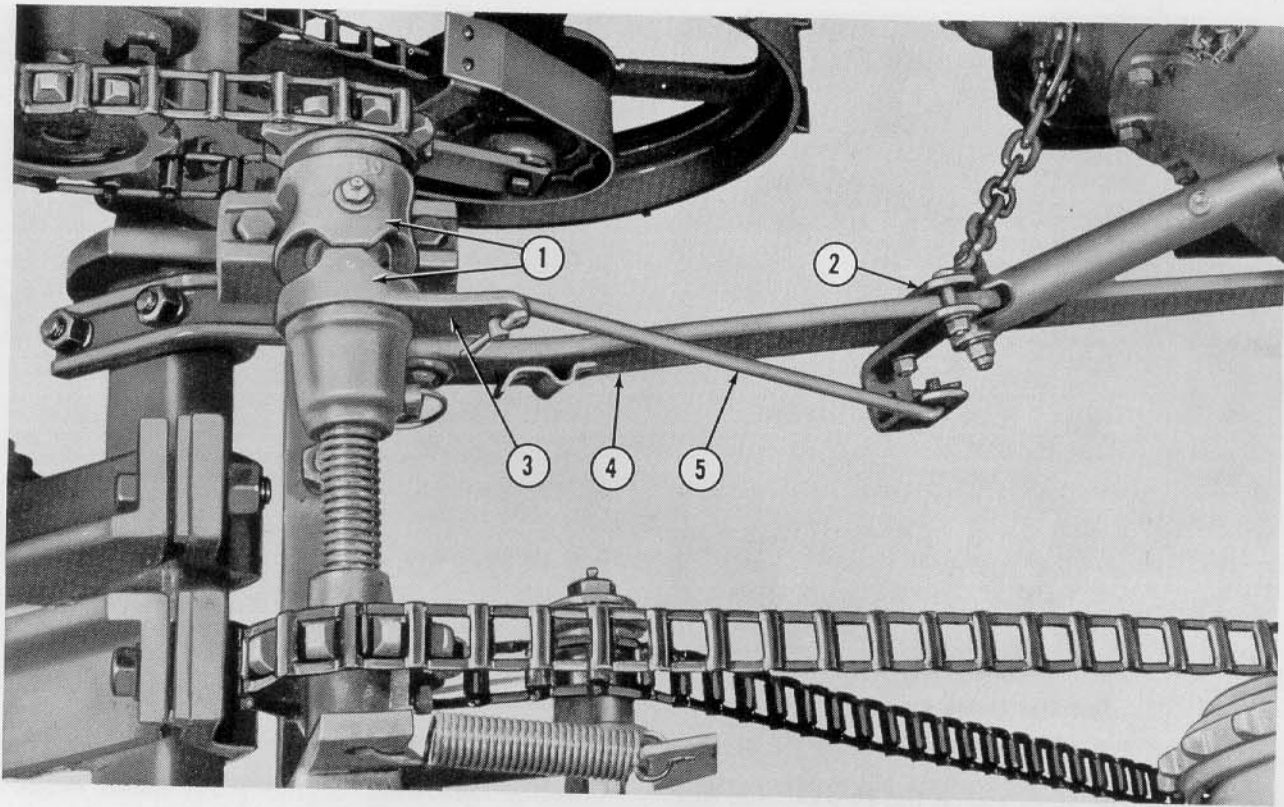

Figure 18
- a. Attach the clutch throwout rod (5), Figure 18, to the lever (3) on the sliding half of the clutch and secure with cotter pin.
- b. Attach the clutch throwout rod bracket (2) to the tractor right lower link (4) as shown in Figure 18.
- c. Slide the bracket (2) on the tractor lift arm (4), Figure 18, until the throwout lever (3) and the cam lobes (1) are in the position shown.
- d. Tighten the nuts on the throwout bracket (2), Figure 18, securely and lower the planter to the ground.
NOTE: *If at any time it is necessary to lengthen the tractor top link, such as for rebusting, it will be necessary to relocate the throwout bracket (2), Figure 18, on the tractor lift arm (4) as outlined in assembly step 8, page 16.*